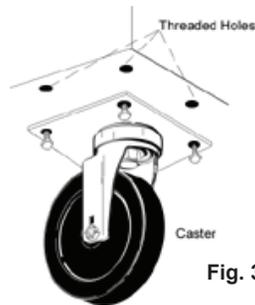

Fig. 3
For installing optional casters, these are “plate” type, and require the use of four (4) bolts to secure them firmly to the cabinet bottom at each corner (see fig. 3). The caster bolts are tightened using a 1/2” socket wrench.